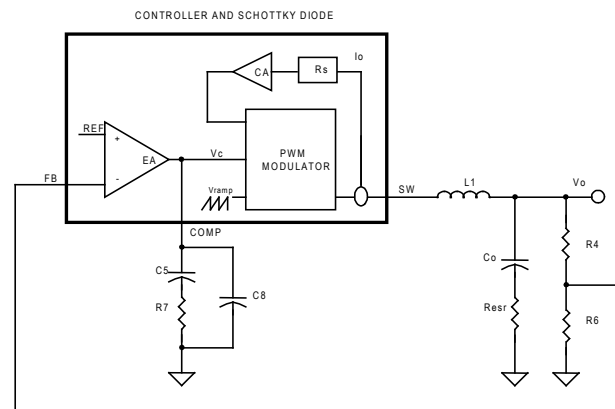

Figure 8. Block diagram of control loops
The goal of compensation is to shape the frequency response of the converter so as to achieve high DC accuracy and fast transient response while maintaining loop stability (see Figure 8).
The block diagram in Figure 8 shows the control loops of a buck converter with the SC4524E. The inner loop (current loop) consists of a current sensing resistor ($R_S=5.5m\Omega$) and a current amplifier (CA) with gain ($G_{CA}=18.5$). The outer loop (voltage loop) consists of an error amplifier (EA), a PWM modulator, and a LC filter.
For a converter with switching frequency F_{SW} , output inductance L_1 , output capacitance C_O and loading R, the control (V_C) to output (V_O) transfer function in Figure 8 is given by: